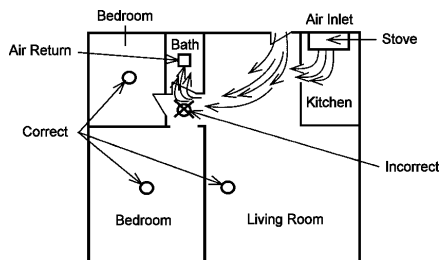

Figure 6
- **In air streams passing by kitchens.** Figure 6 shows how an alarm can be exposed to combustion particles in normal air movement paths, and how to correct this situation.